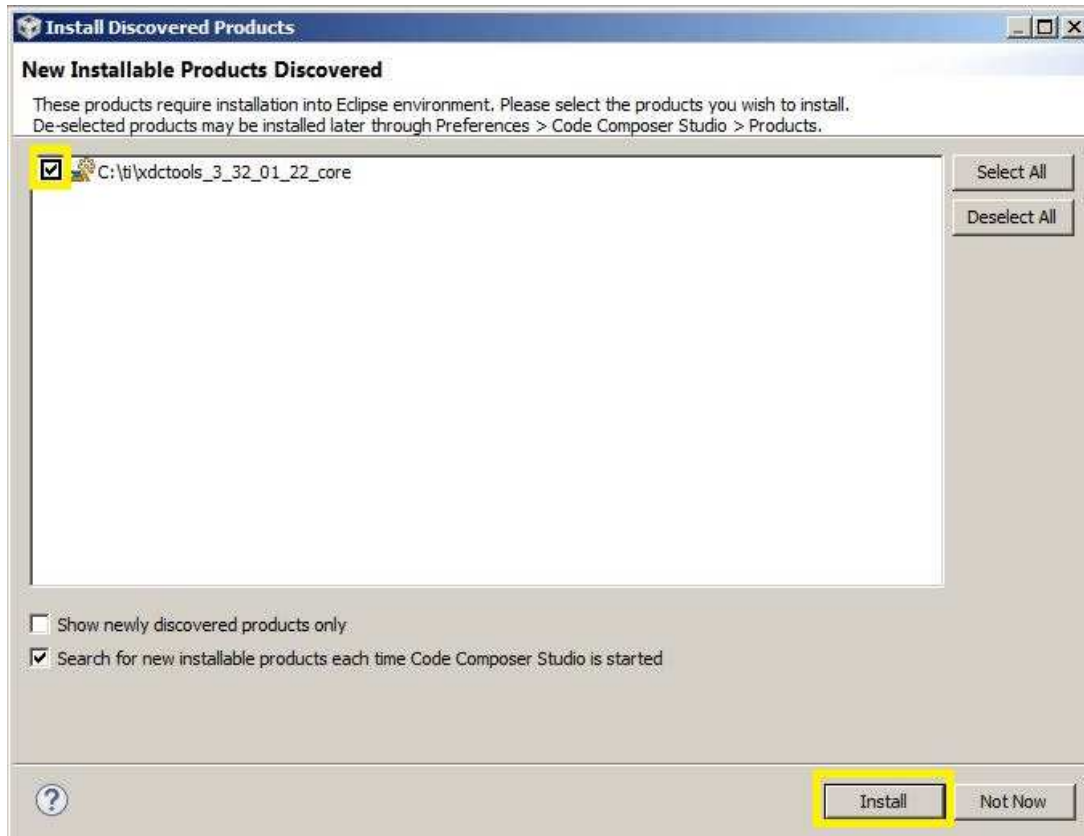

Figure 21. Code Composer Studio™ Installation – New Products Discovered
3. If the paths are not in the Product Discovery Path, add them and then click the Rediscover button. An Install Discovered Products window may pop up (see Figure 21). If the window appears, it means that new products have been discovered. If the products in Step 2 are in the list, choose them and select install.